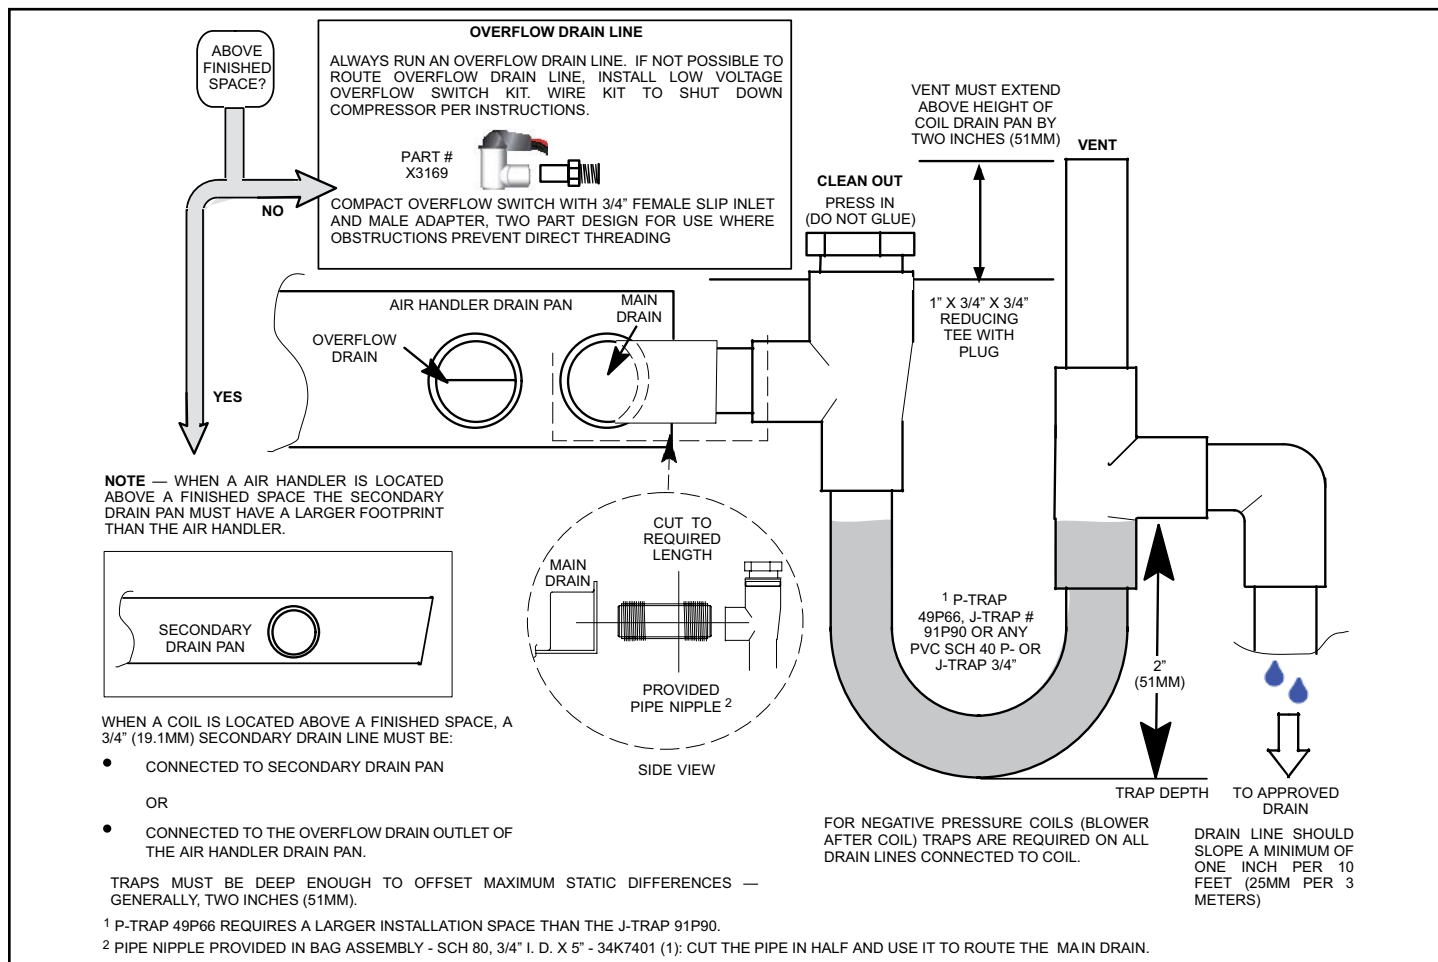

Figure 8. Typical Main and Overflow Drain
6. Install a 2" trap in the main (primary) drain lines as close to the unit as practical (see Figure 8). Make sure the top of the trap is below the connection to the drain pan to allow complete drainage of the pan.
NOTE: Horizontal runs must have an anti-siphon air vent (standpipe) installed ahead of the horizontal run. See Figure 8. An extremely long horizontal run may require an oversized drain line to eliminate air traps.